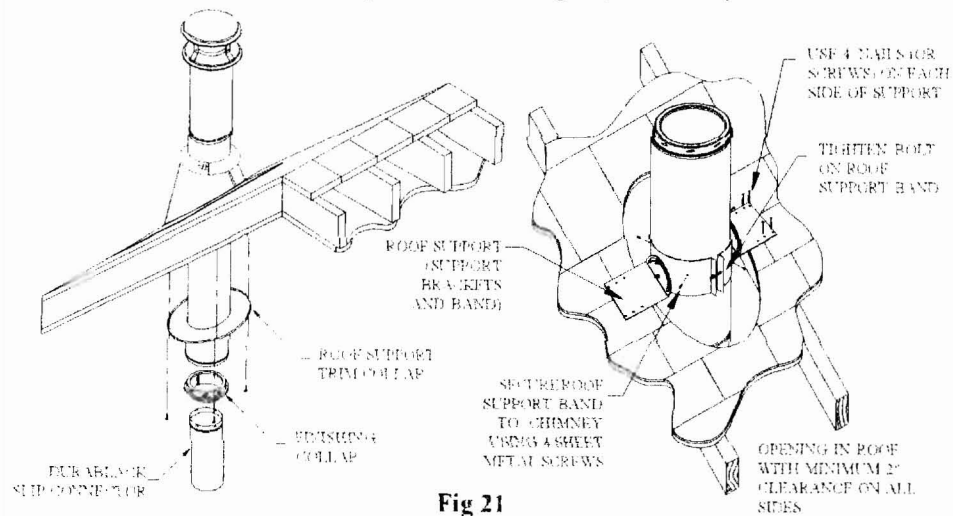

Fig 21
(2) A Roof Support is also used in installations where there is a cathedral ceiling, and a Square Ceiling Support is not desired. The Roof Support allows the DuraTech chimney to come down into the room below the level of the ceiling (Fig 21). The Roof Support can support a maximum of 45 feet of DuraTech Chimney total, and maximum of 20 feet below the support. If a taller stack of DuraTech Chimney is required, you must use a Square Ceiling Support Box instead.
2. Bolt on the Roof Support Brackets to the Roof Support Band using the supplied hardware. Attach the Roof Support Brackets to roof using (4) 8 penny nails or (4) #8, 1-1/2" screws per side (Fig 21).
3. Determine how much DuraTech Chimney will be extending into the room (minimum of 3" below the ceiling). Be sure to maintain the proper clearance to combustibles (walls and ceilings) for the connector pipe. Once you have identified the proper height for your installation, attach the of the Roof Support Band to the Chimney Section by tightening the Bolt, and secure it by using (4) supplied sheet metal screws.
5. Slide Trim Collar over the DuraTech Chimney and attach the Trim Collar to the ceiling using (4) 1-1/4" screws provided (Fig 21).